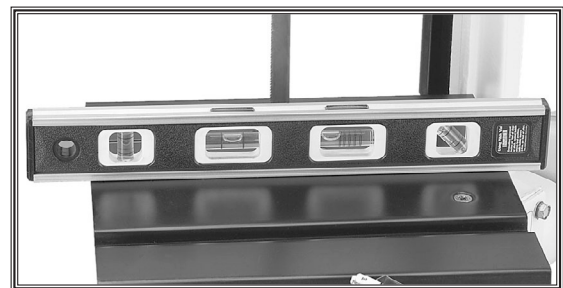
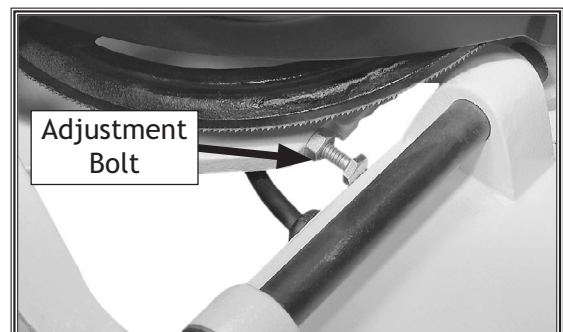

Figure 25. Adjusting table with a level.
Figure 26. Table adjustment bolt.
5. Place a level on the table, as shown in **Figure 25**, then use the adjustment bolt shown in **Figure 26** to make the table level.